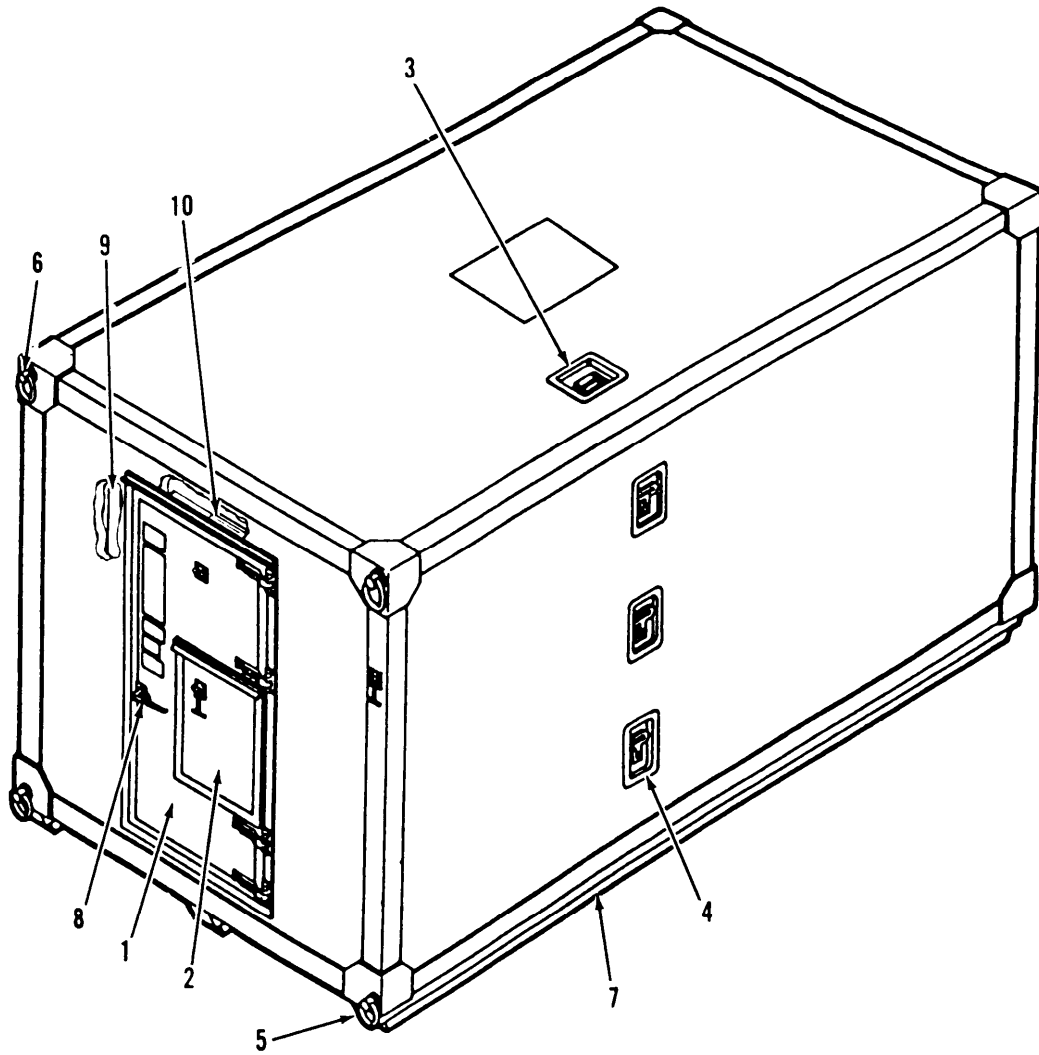

Figure 3-10. Overall Shelter Assembly Inspection.
*Inspect.* (Figure 3-10)
- (1) Inspect shelter exterior for dents, punctures, or any other damage.
- (2) Inspect shelter exterior for missing or loose parts and mounting hardware.
- (3) Inspect door assembly (1) for ease of operation.
- (4) Inspect emergency exit panel assembly (2) for missing or damaged hardware and for ease of removal.
- (5) Inspect hand hold (3) and recessed steps (4) on shelter exterior for loose, missing, or damaged parts, and for proper operation.
- (6) Inspect towing eye assembly (5) for damaged or missing parts and for proper operation.
- (7) Inspect lifting and tiedown eye assembly (6) for damaged or missing parts, and for proper operation.
- (8) Inspect hold down assembly for damaged or missing parts, and for proper operation.
- (9) Inspect roller latch assembly (8), keeper assembly (9), and door brace assembly (10) for damaged or missing parts, and for proper operation.
- (10) Inspect skid assembly (7) for damaged or missing parts.